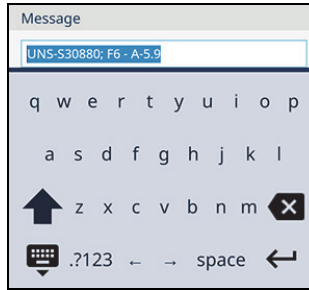

Figure 2-81 Message selected in dialog box
1. Tap the **Message** text box (see Figure 2-81 on page 93) to edit an existing message or create a new message.